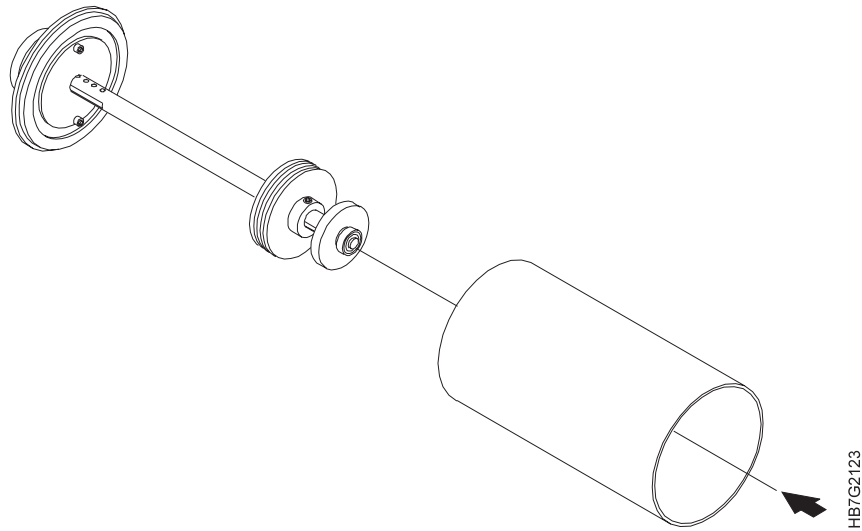

Figure 236. Removing Shaft from Paper Roll Core
2. After you have removed the plastic flange, remove the shaft from the core of the roll, as shown in Figure 236 on page 270.